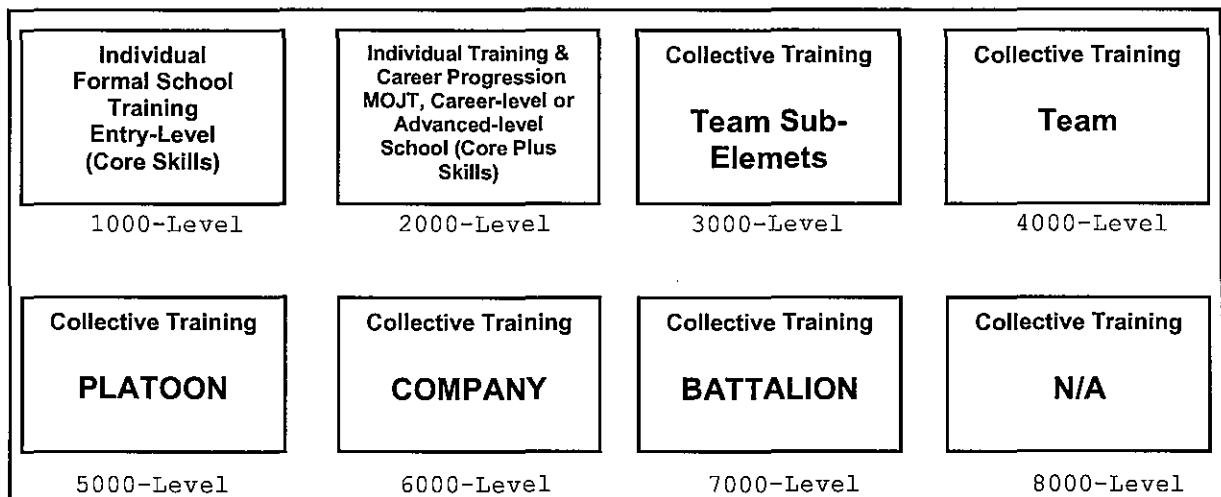

Figure. 1-1 T&R Event Levels
- c. Third 4 characters indicate the unit size and supported unit, if applicable (1000 through 9000), and sequence. Figure 1-1 shows the relationship of unit size to event code. NOTE: The titles for the various echelons are for example only, and are not exclusive. For example: 4000-level events are appropriate for Section-level events as noted, but also for Squad-level events.
(1) Grouping. Categorizing events with the use of a recognizable code makes the type of skill or capability being referenced fairly obvious. Examples include: PAT for patrolling events, DEF for events in the defense, FSPT for events related to fire support, etc. There is no special significance to the functional areas, but they should be intuitive to make it as easy as possible for the T&R user to find events. When organizing the T&R manual, functional areas are alphabetized then the associated events are numbered. The events will be numbered based upon the introduction of each new functional area, allowing up to "999" events. For example: if there are seven Administrative events 4431 occupational field, then the events should start 4431-ADMN-1001 and run through 1007. Next, the Bulk Fuel events, BUFL should start at 4431-BUFL-1001.
(2) Sequencing. A numerical code is assigned to each individual (1000-2000-level) or collective (3000-9000-level) training event. The first number identifies the size of the unit performing the event, as depicted in figure 1-1. The second number is available for T&R Manuals with collective events that support those in other manuals to identify the echelon of unit being supported by a particular collective event. If a collective event is supported by other events or is performed in general support without regard